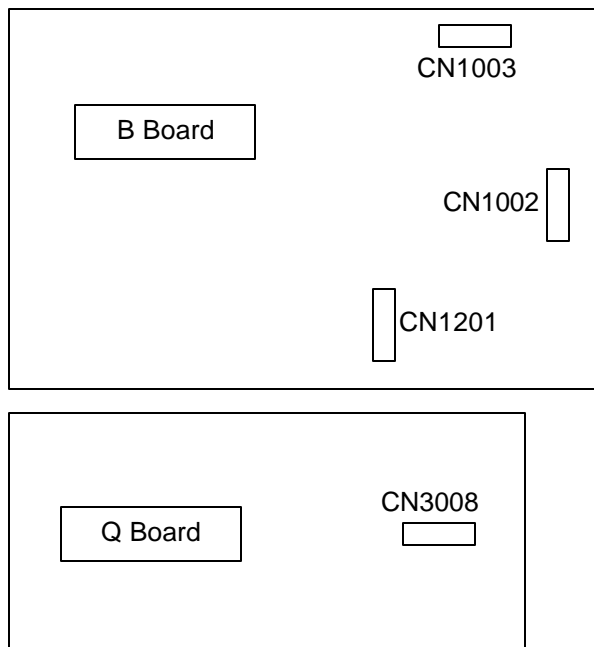

Figure 8-13 - Unused Test Connectors
- Plug in the connectors. Make sure these test connectors on the B and Q boards are empty (Figure 8-13 shows the location of empty CN1003, CN1002, CN1201 and CN3008).